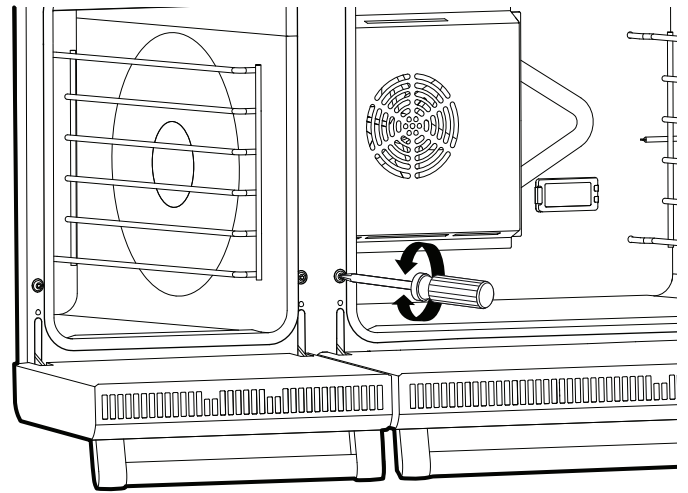

Figure 12: Hinge Receiver Adjustment Screw
4. If door or handle appears slightly tilted, you may adjust the hinge receiver by rotating the large Torx-head screw located directly above the hinge receiver with a T-20 Torx driver. Rotate each screw respective to its side and direction the door needs to be adjusted (Figure 12).